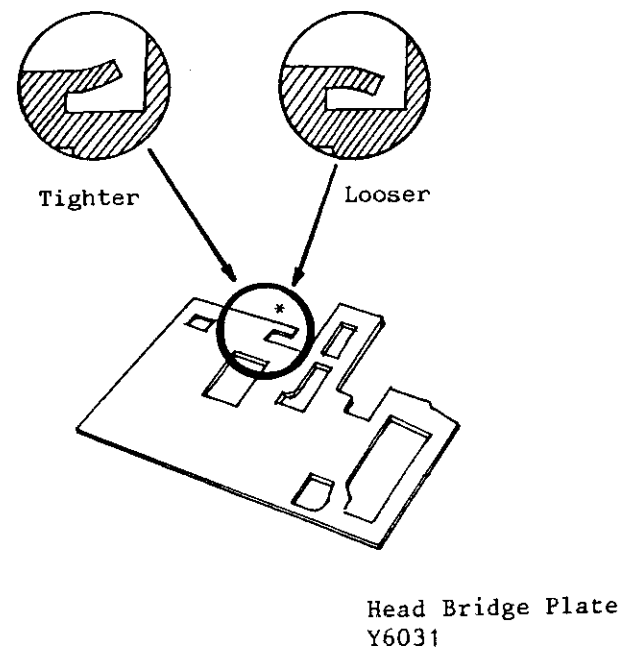

Fig. 3
- 2) If noise cannot be eliminated with the grease application, adjust the tightness of gears by bending the tab of head bridge plate (Parts No. Y6031) as per drawing. (Fig. 3)